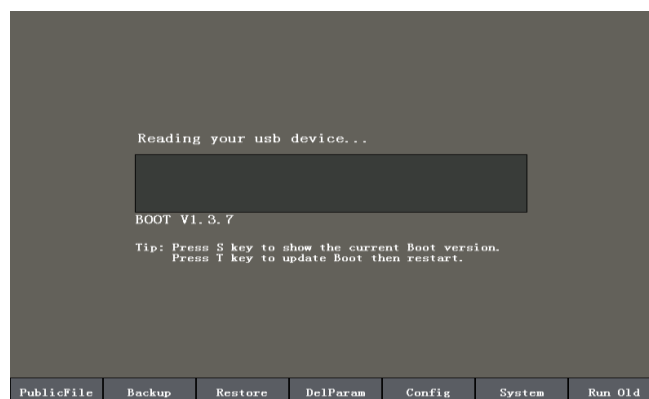

Figure 8-2 BOOT system upgrade interface
2. Press the <Z> after the system image update is complete. The system automatically recognizes the USB device, and skip to the BOOT system upgrade interface in figure 8-2 after the recognition is successful.
2. Through any of the following methods to enter the BOOT upgrade interface shown in Figure 8-2.
3. In the figure 8-2 interface, press <F6 Update System>, select the software to be installed in the pop-up USB list, and start the update after confirming <Enter>.